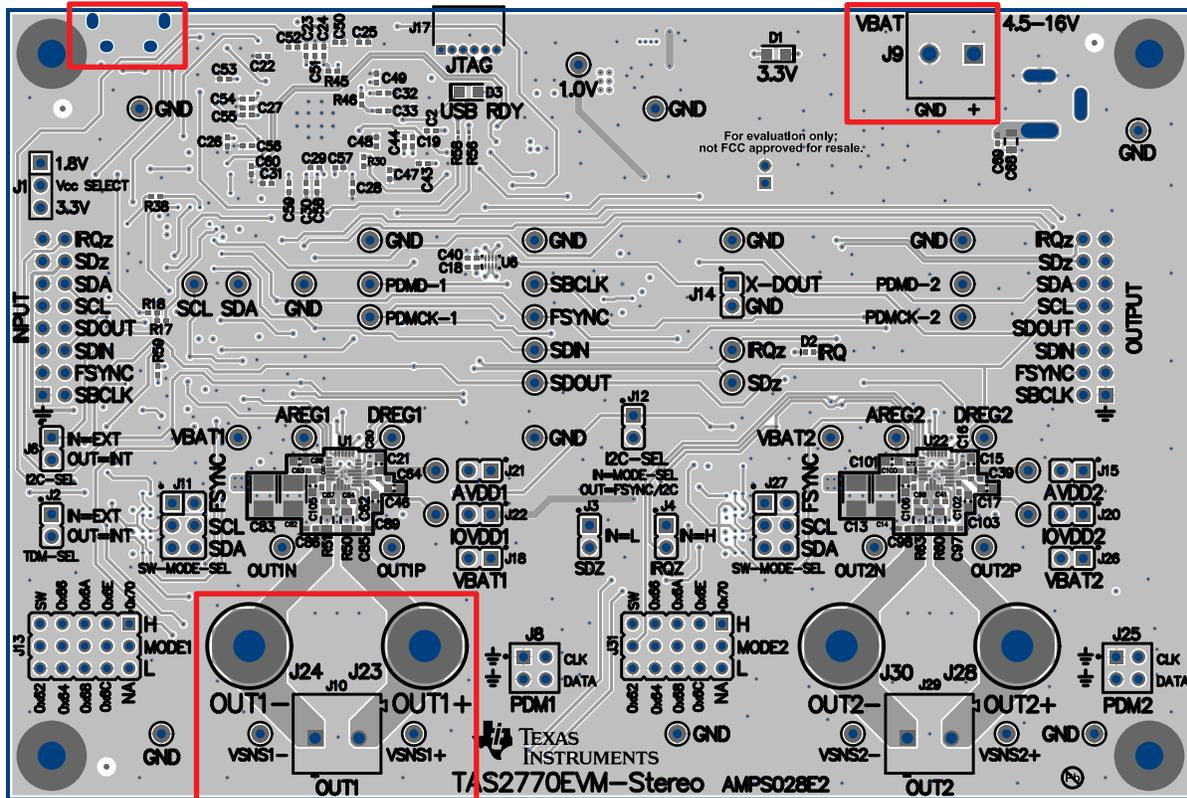

Figure 6. TAS2770EVM-STEREO Mono Configuration
2. Connect the first speaker to J10 on the EVM (see Figure 6). Alternatively, J23 and J24 can be used for speaker connections.